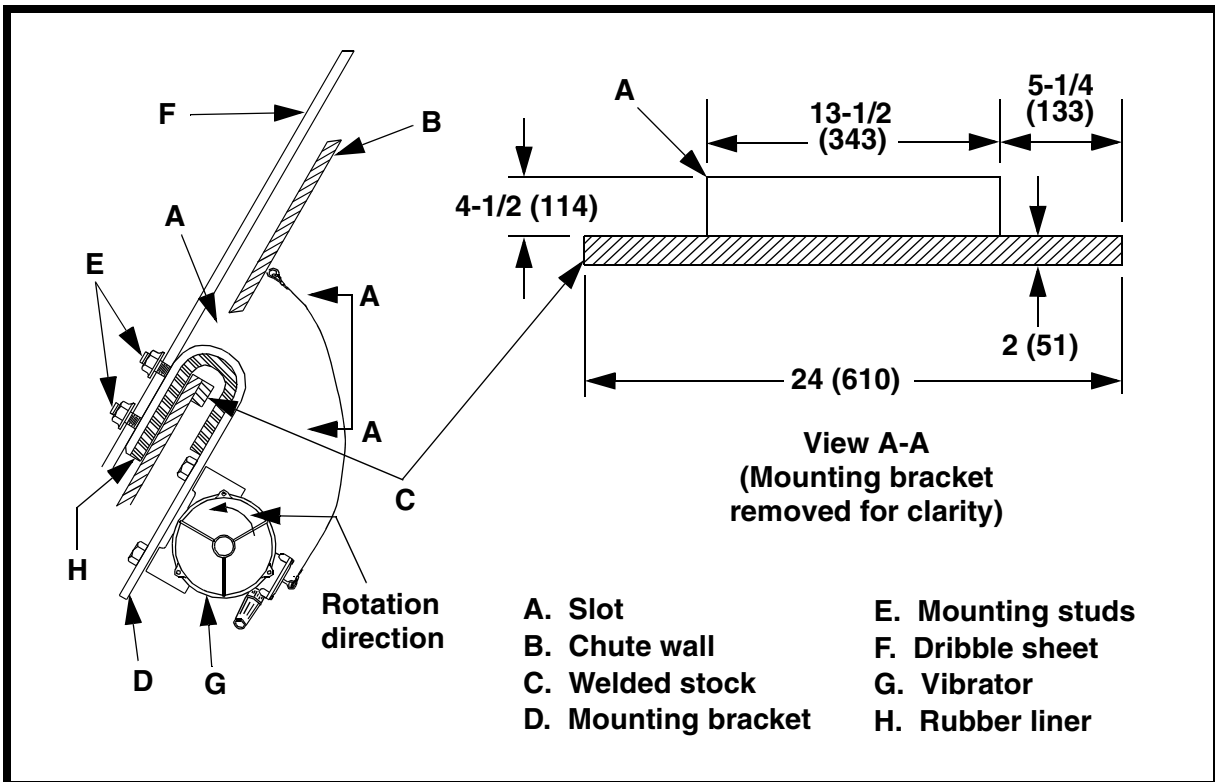

Figure 2. Dimensions for Slot and Welded Stock
1. See Figure 2. Determine where to cut mounting slot (A) in chute wall (B). Center slot under belt parallel to belt width.
3. If chute wall is less than 1/4 in. (6 mm) thick, weld a piece of flat stock (C) 3/8 x 2 x 24 in. (9 x 51 x 610 mm) to the chute wall as shown in Figure 2.
4. Insert mounting bracket (D) through slot and hang on chute wall so mounting studs (E) are inside the chute.
1. Install dribble sheet (F, Figure 2) onto mounting studs and secure with hex nuts and washers. Hand-tighten hex nuts to snug so dribble sheet does not crack from over-tightening.
2. Install vibrator (G) to mounting bracket according to *Cougar[®] Zero-Frame Electric Vibrators Operator's Manual*, P/N M3892.
2. Ensure eccentric weights on vibrator rotate in direction shown in Figure 2.
3. Check dribble sheet (F, Figure 2) to ensure minimum clearance is maintained. If belt has sagged, adjust vibrating dribble chute to prevent damage.
4. Make sure rubber liner (H) on mounting bracket (D) is not worn. If it is, replace as follows:
- a. Remove vibrator (G, Figure 2) and dribble sheet from mounting bracket.
- b. Remove mounting bracket from slot (A) in chute wall (B).
Chute wall beginning to tear.	Chute wall too thin. Weld a piece of flat stock to chute wall (see Figure 2).